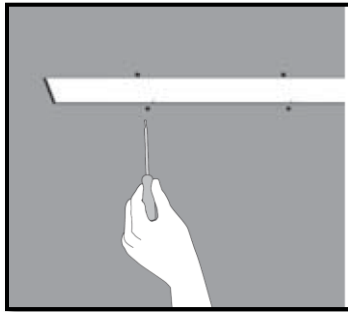

Figure 3.
- c) Secure frame/extrusion with sheet rock screws as shown on Figure 3.